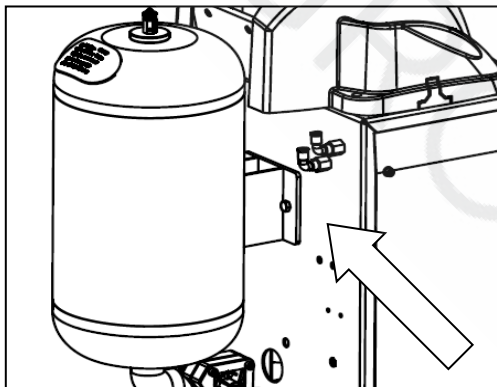

FIG 4
- The condition of the machine after installation is as indicated in Fig4.